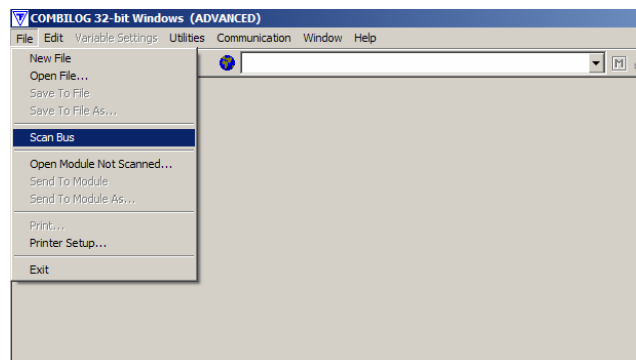

Figure 19: The COMBILOG software will scan the RS-232 interface for available COMBILOG data loggers.
- A list of found COMBILOG data loggers will appear on screen (see Figure 19). Depending on the configuration mode of the COMBILOG data logger, i.e. *MASTER* or *SLAVE*, one or more COMBILOG data loggers will appear on screen (typical names are “Weather Station” and/or “LAS”). If the PC is connected to the RS-232 of the *SLAVE*, the *MASTER* data logger will not be visible!